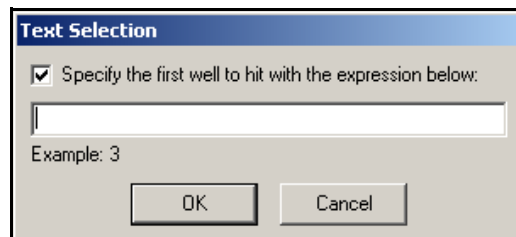

Figure 7-11. Text Selection
2. Right click anywhere in the labware graphic and choose **Specify Selection as Text**. Text Selection appears (Figure 7-11).